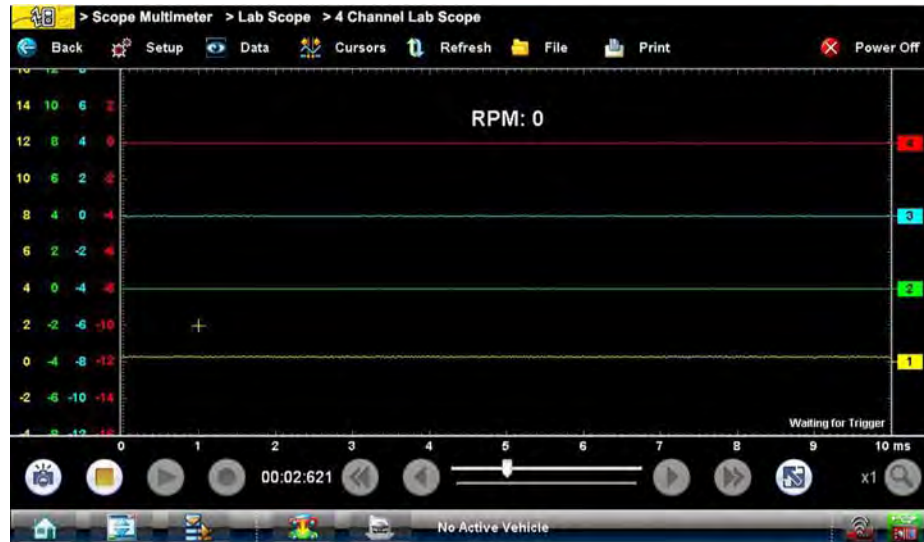

Figure 8-20 Sample Show RPM selected
- **Show RPM**—adds an engine speed field at the top of the screen (Figure 8-20).